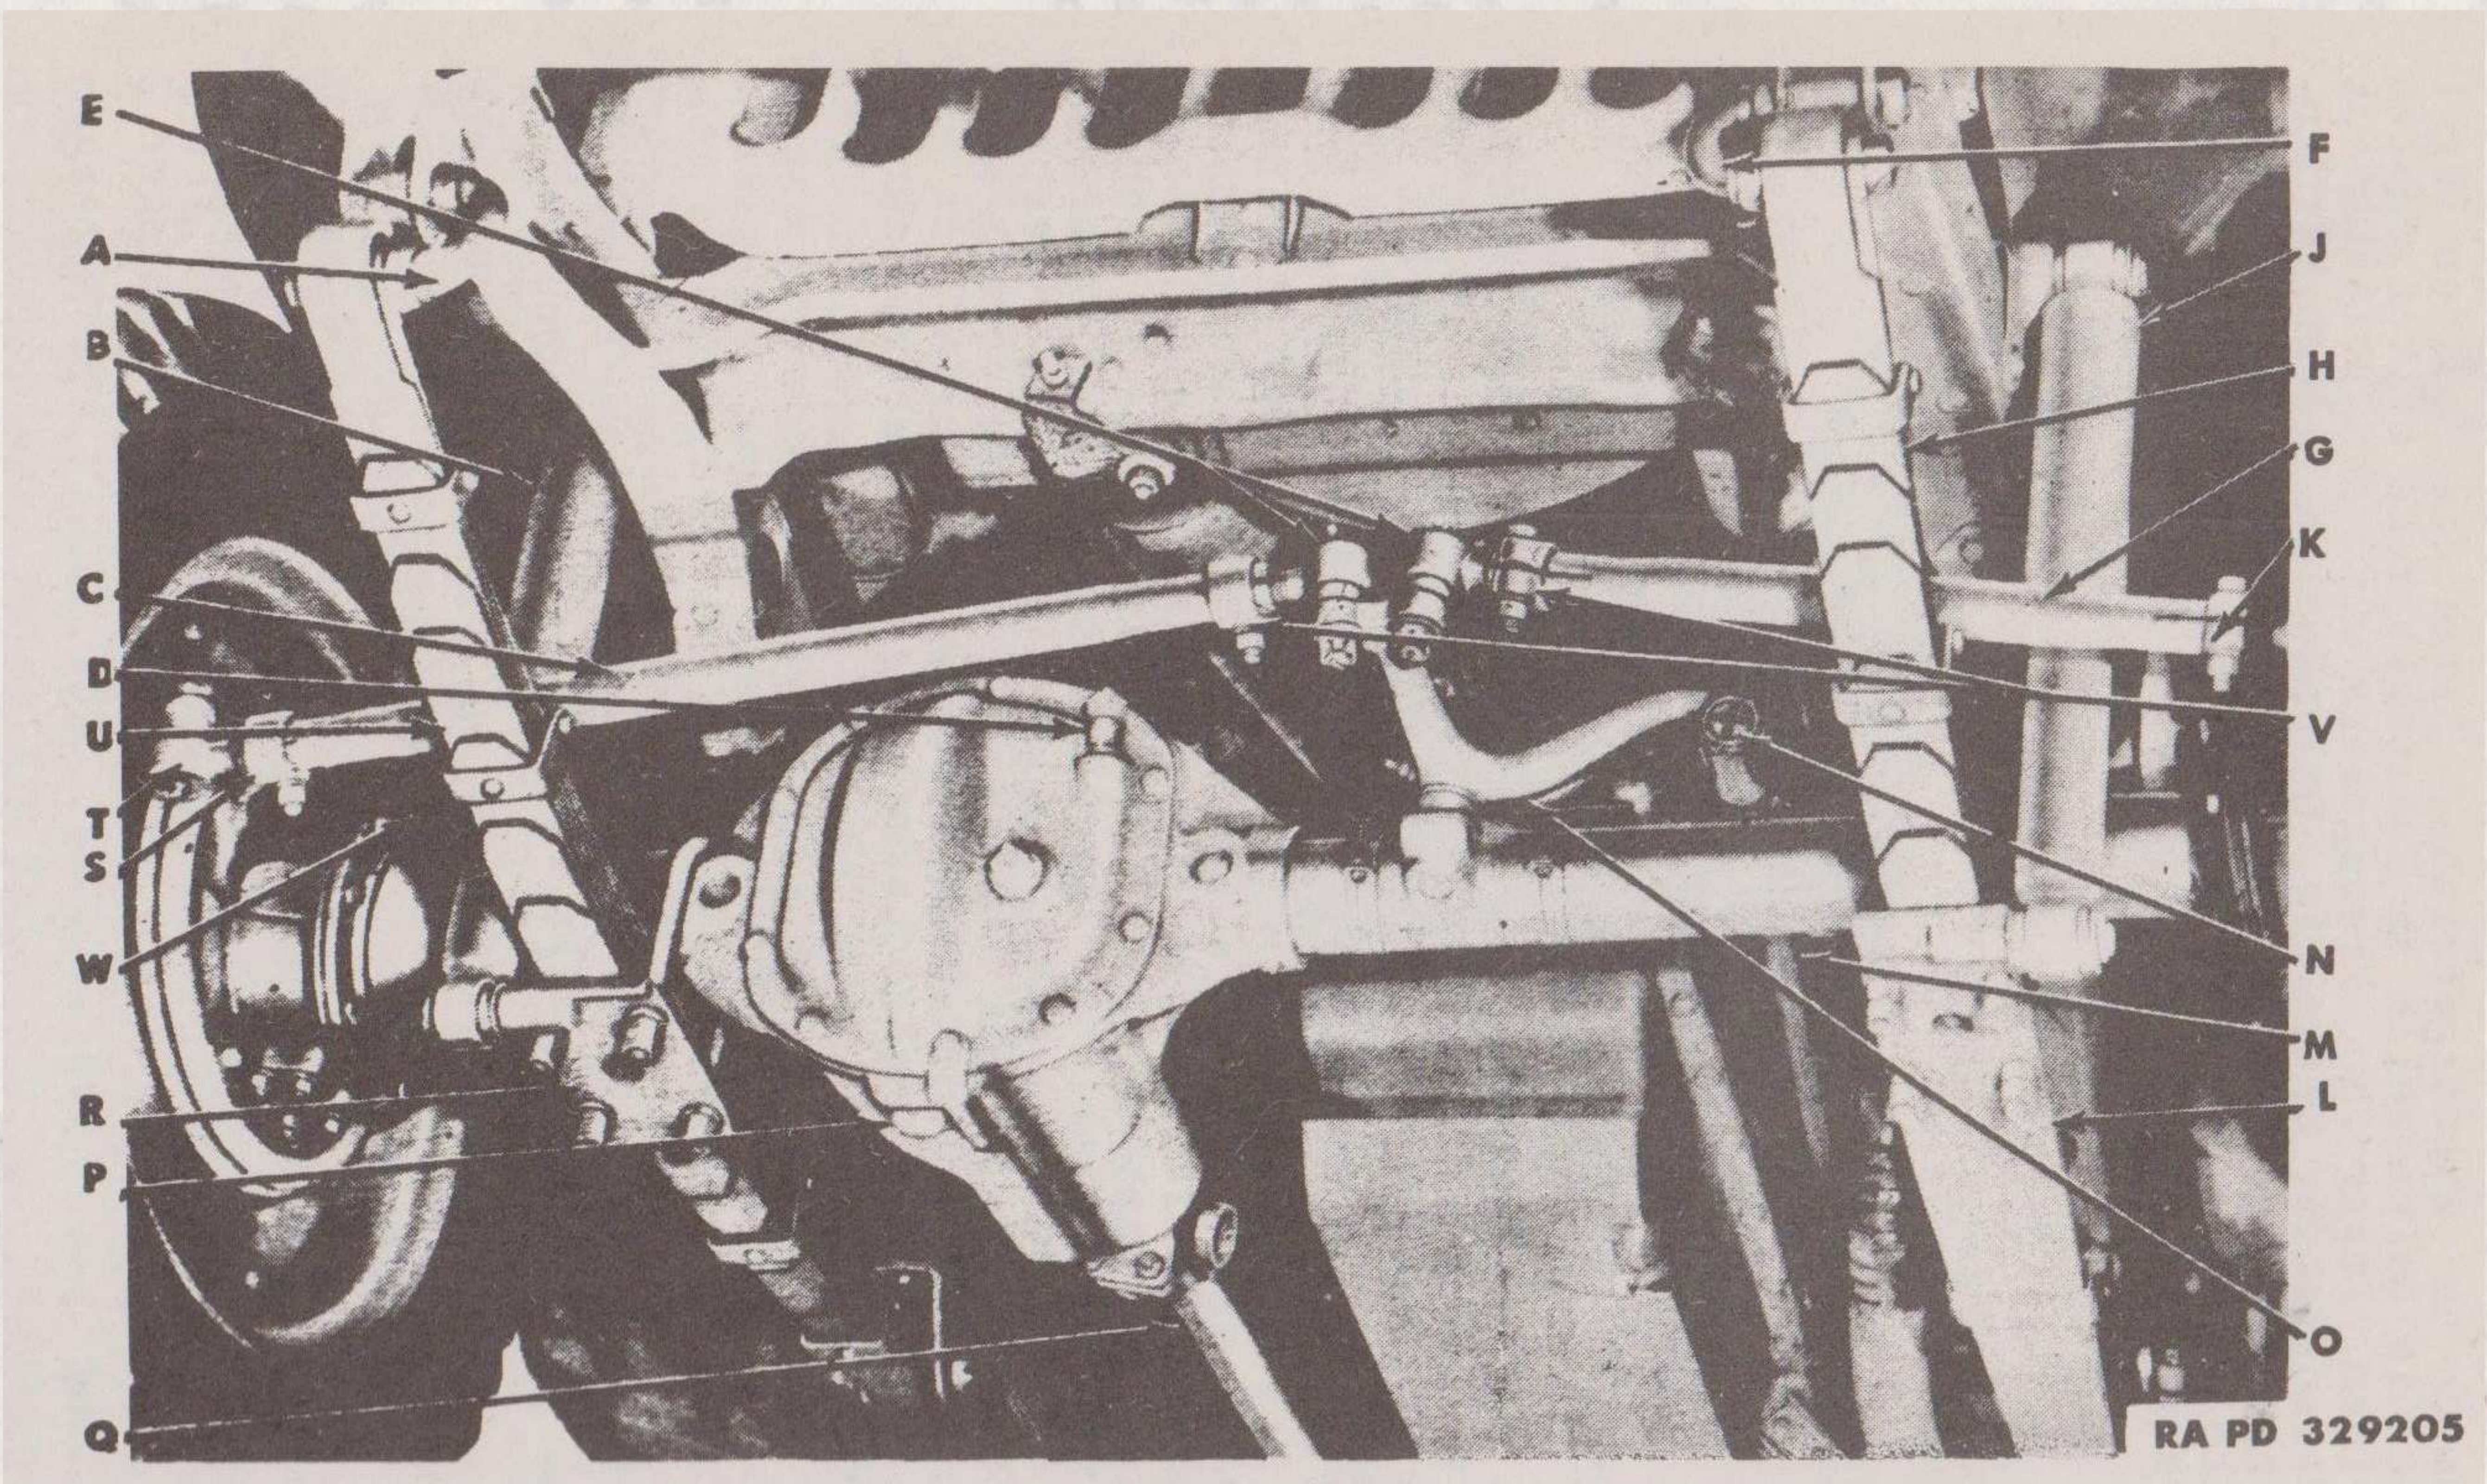

Figure 35 — Front Axle Assembly in Vehicle
a. **Description** (fig. 2). The front axle assembly is a front wheel driving unit, with specially designed spindle housings, and has a conventional type differential with hypoid drive gears. The differential parts are interchangeable with those of the rear axle. The axle shafts are of the full-floating type. The differential is mounted in the housing similar to the rear axle, except that the drive pinion shaft is toward the rear instead of the front and to the right of the center of the axle. Three types of axle shafts and universal joints have been used (Rzeppa, Bendix, and Tracta). The vehicles using the different types of shafts are identified by an identification tag attached to the spindle housing (fig. 35).
Legend for Figure 35 — Front Axle Assembly in Vehicle
b. **Disconnect Shock Absorbers and Drag Link (fig. 35).** Remove the cotter pin and flat washer that secure the shock absorber to the spring seat plate at both front shock absorbers. Remove the drag link plug at the pivot arm. Remove the drag link from the pivot arm.
c. **Disconnect Front Propeller Shaft and Spring U-bolts (fig. 35).** Disconnect the front propeller shaft at the front axle (par. 17 a). Remove the four nuts from the two U-bolts that secure the spring seat plate. Remove the spring seat plate and U-bolts. Remove the four nuts from the U-bolts at the torque reaction spring. Remove the two U-bolts.
d. **Disconnect Spring Shackles (fig. 35).** Remove the lower spring shackle bushing at the forward end of the front springs. Pull both springs out of the spring shackles and drop the forward end of the springs to the floor. Roll the front axle assembly from the vehicle.